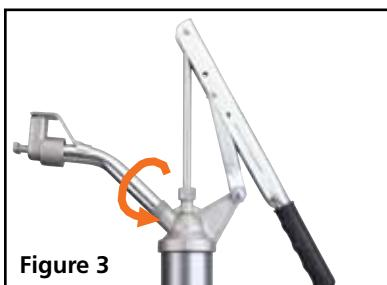

Figure 3
- Screw the delivery spout clockwise (Fig. 3) onto the pump head. Tighten securely to eliminate possibility of leakage.